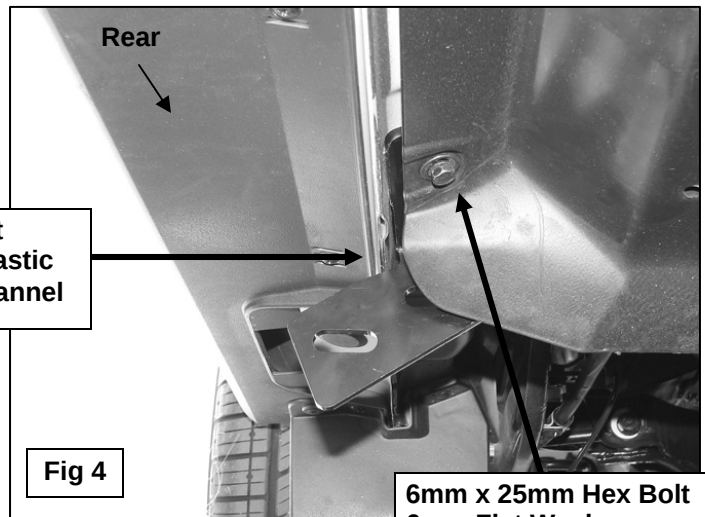

Fig 4
4. Moving toward the rear of the vehicle, remove the factory 6mm hex bolt securing the plastic cover to the floor channel. Select the Passenger Side Rear Support Bracket. Hold the Bracket up to the threaded hole in the floor channel and insert the included (1) 6mm x 25mm Hex Bolt with (1) 6mm Lock Washer and (1) 6mm Flat Washer through the plastic cover, the Support Bracket and into the floor channel, **(Figure 4)**. Do not tighten hardware at this time.